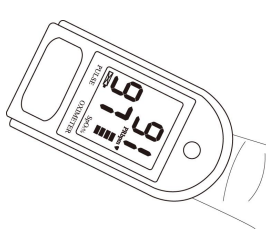

Figure 7. Put finger in position
1. The finger should be placed properly (see the attached illustration of this manual ,Figure 7), or else it may cause inaccurate measurement.
- 7.2 Open the clip as shown in Figure 7.